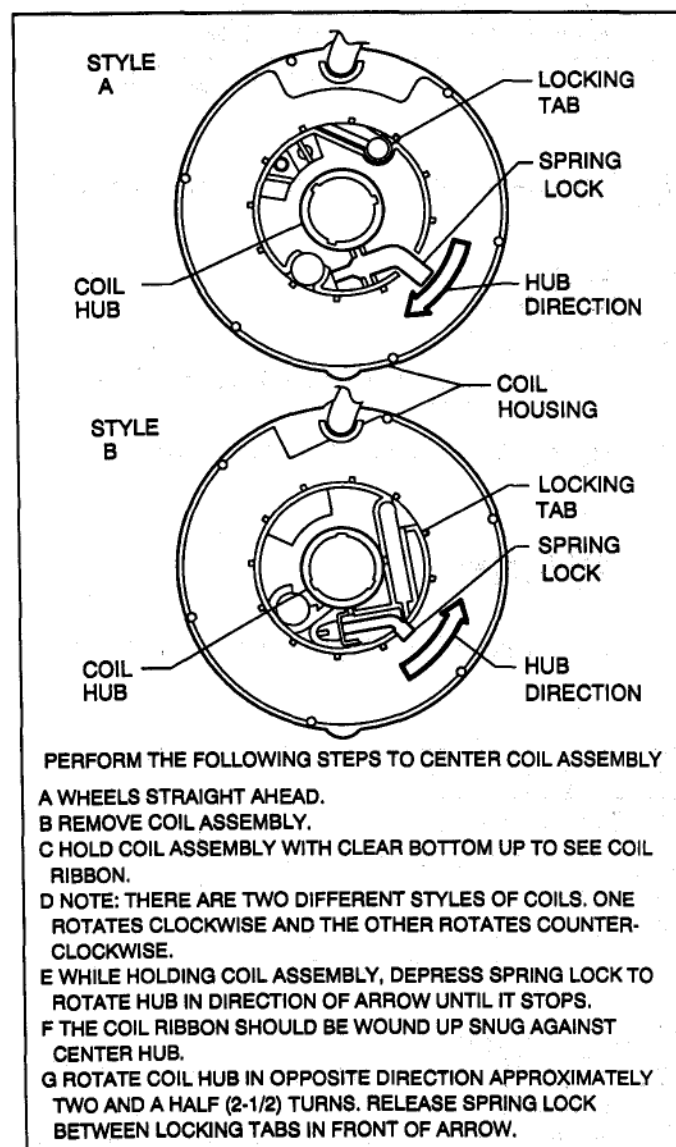

Figure 13 - Centering Coil Assembly
- 2) Centering spring is pushed down, letting hub rotate while coil (3) is removed from steering column. (If this occurs, see Figure 13)
- 2) Centering spring is pushed down, letting hub rotate while coil is removed from column. (If this occurs, see Figure 13)
NOTICE: If a new coil assembly (3) is being installed, assemble pre-centered coil assembly (3) to steering column. Remove centering tab and dispose. (See Figure 13)